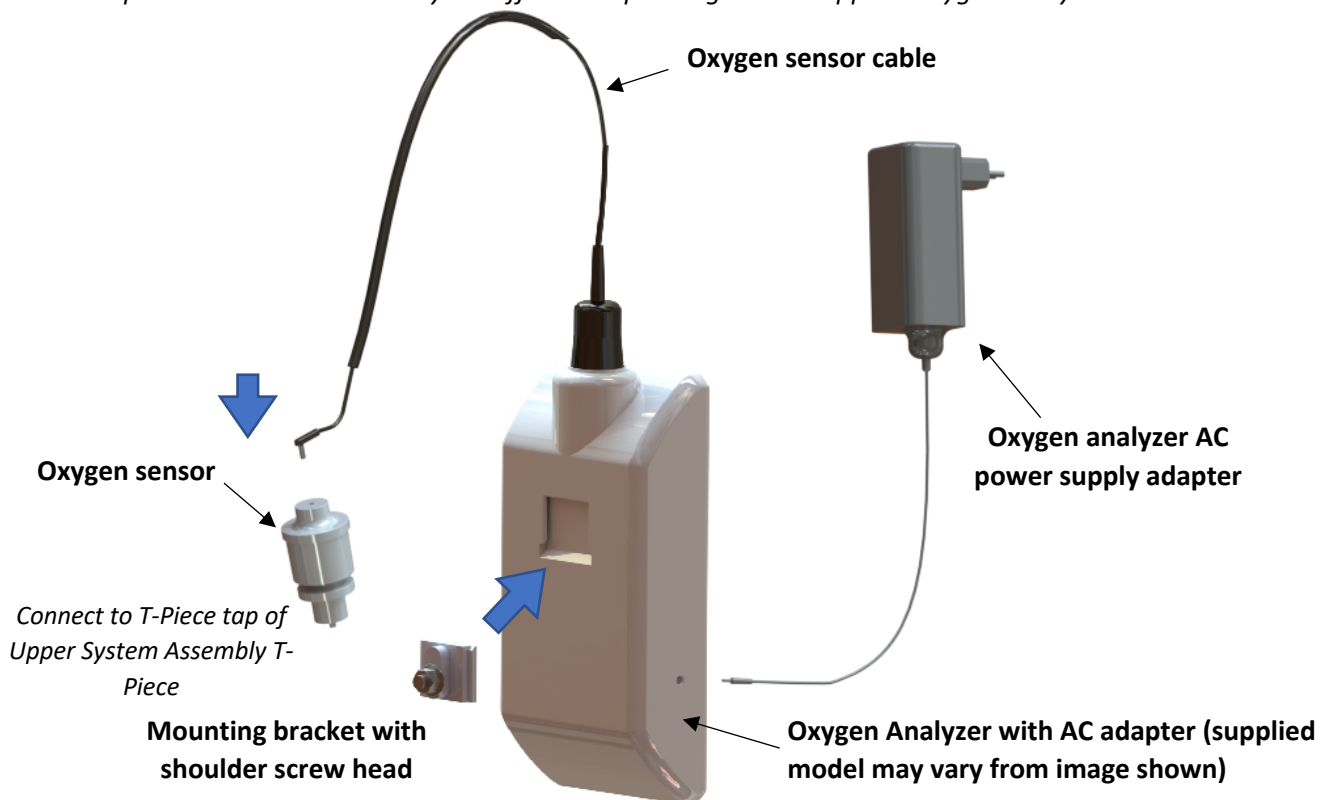

Fig. 7. Oxygen analyzer connection diagram
8. Install the mounting bracket provided at the back of the oxygen analyzer with the shoulder screw head facing out by sliding it upward into the slot at the back of the oxygen analyzer, refer to Fig. 7. Attach the oxygen sensor cable and the oxygen sensor as shown in Fig. 7. *Note: The parts and connections may be different depending on the supplied oxygen analyzer.*